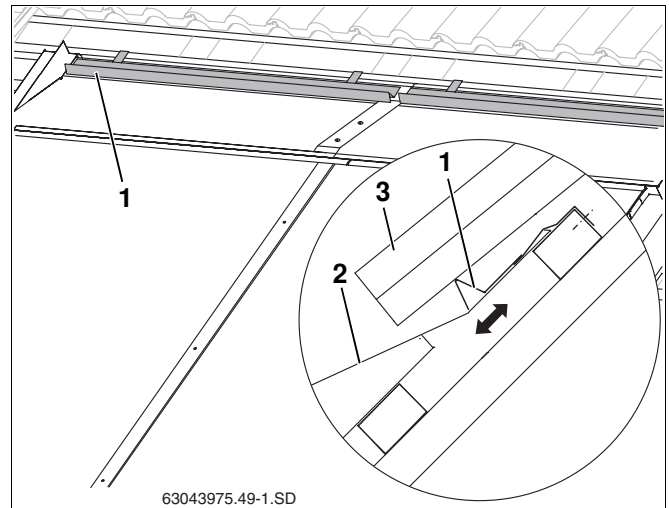

Fig. 59 Laying and securing the pan tile overlay
- it covers the facing collector (Fig. 59, **Item 2**) as much as possible, but does not come into contact with it, and
- Place the pan tile overlay (Fig. 59, **Item 1**) according to the calculated position and fasten to the roof batten.
- Lay the cut pan tiles (Fig. 59, **Item 3**).